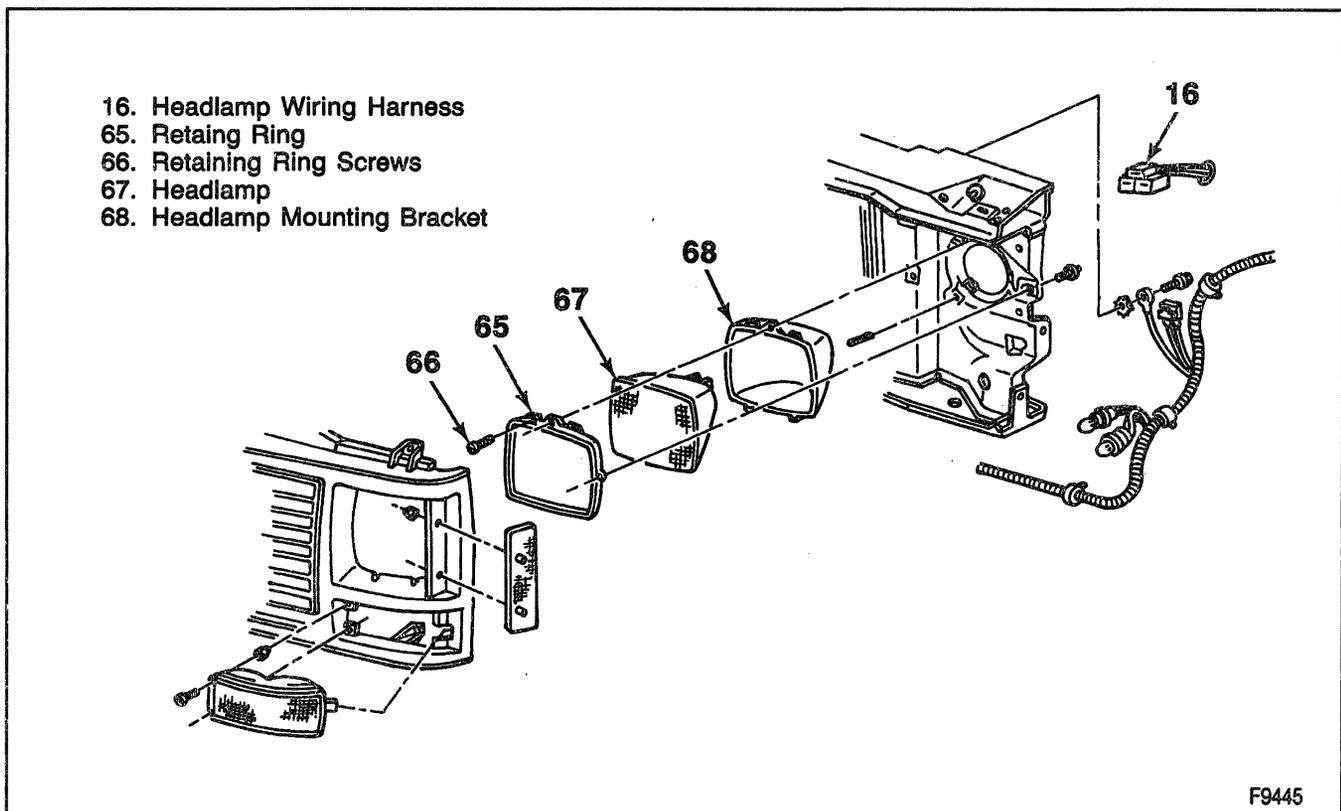

Figure 8—Sealed Beam Headlamp Components
Remove or Disconnect (Figure 8)
**↔ Install or Connect (Figure 8)**